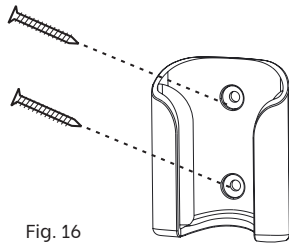

Fig. 16
- Attach and secure the holder to the wall with screws provided and tighten with screwdriver (Fig.16).